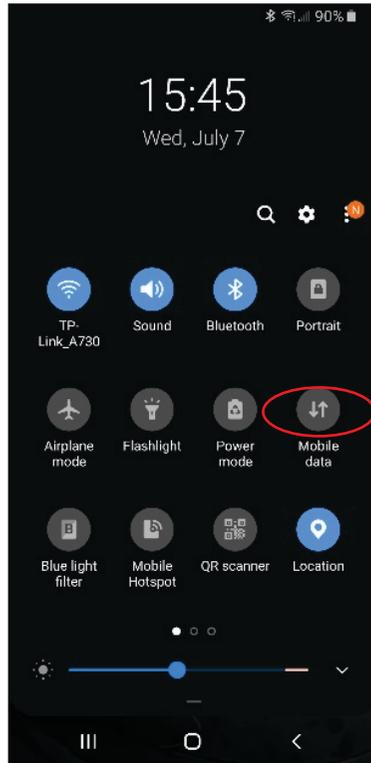

Figure 2-6. Mobile Data Settings
1. Ensure mobile data is turned off and the phone is connected to the correct router. The mobile data setting button for the Samsung Galaxy S8 is shown in Figure 2-6.